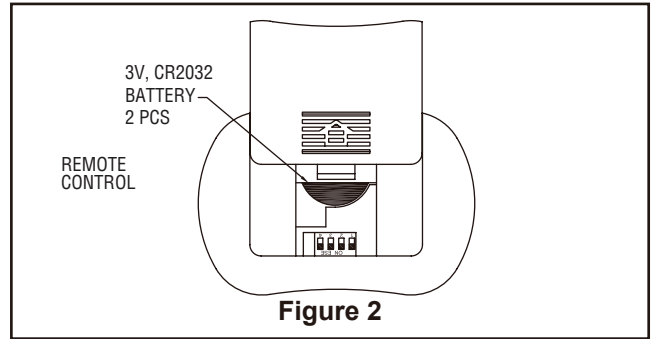

Figure 2
2. To make fan operational, install two piece of 3-volt battery in hand-held remote transmitter, (if not using for long periods of time, remove battery to prevent damage to transmitter). Store the remote away from excessive heat or humidity (Figure 2).